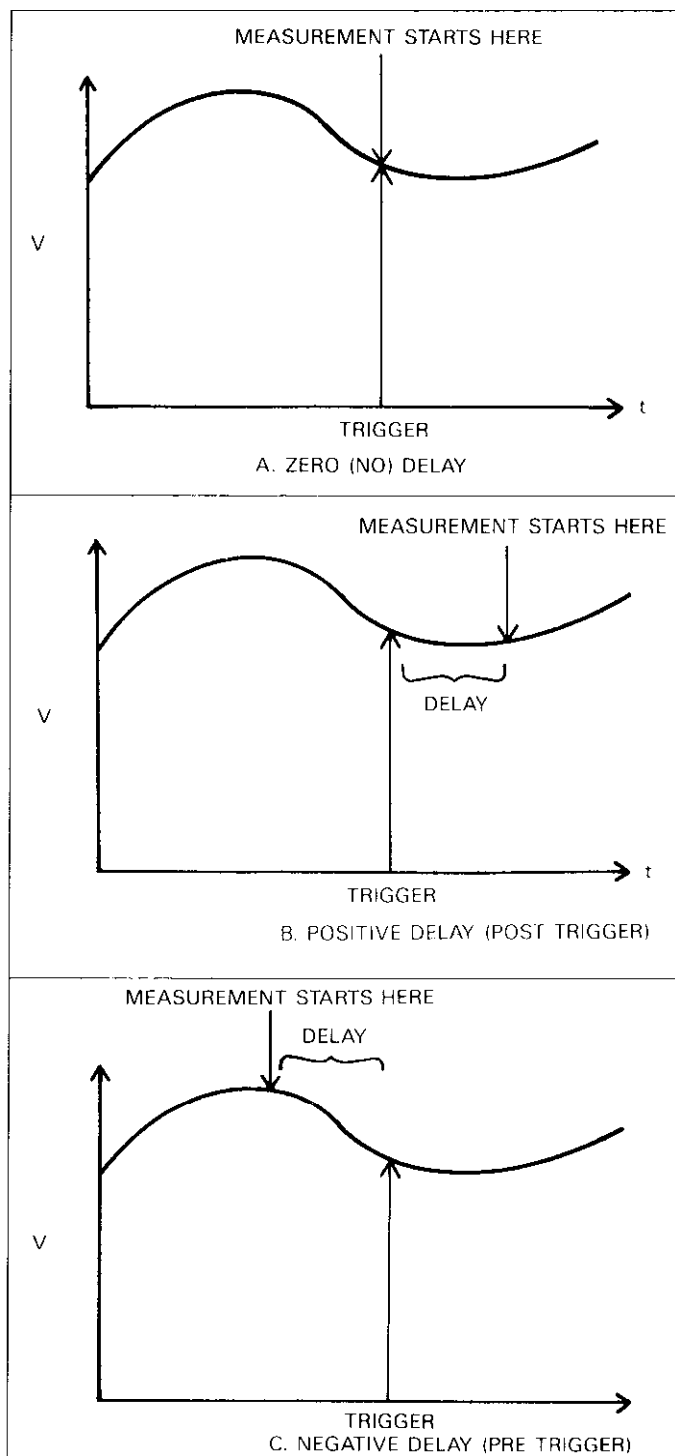

Figure 3-1. Trigger Delay
Figure 3-1 will help to demonstrate the basic concept behind delayed triggering. In Figure 3-1(A), the delay is zero, so the measurement begins at the trigger point. In (B), which shows a positive delay, the measurement sequence begins some time after the trigger occurs. That time period is, of course, determined by the programmed delay value.
In Figure 3-1(C), a negative delay is shown, with the first measurement occurring ahead of the trigger stimulus. The amount of delay is again determined by the programmed delay parameter.